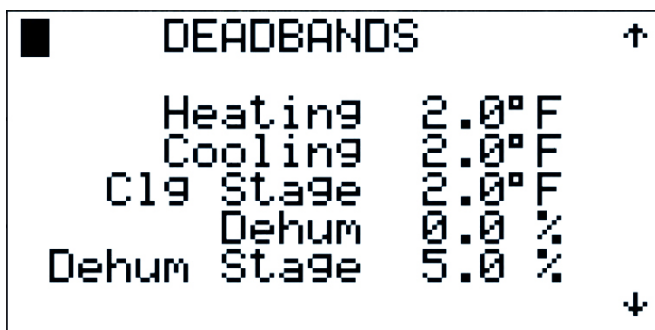

Figure 63
2.3.3.2 Tuning – Dead Bands (Figure 63)
Selecting TUNING from the SERVICE MENU displays the DEADBANDS screen shown in Figure 63. The default settings for the dead bands can be modified on this screen. The Heating Deadband value is subtracted from the Zone Temperature Setpoint from section 2.2. This value is the heating setpoint that enables the aux air heating output. It is also the heating setpoint for the Air Heating PID loop. The Cooling Deadband value is added to the Zone Temperature Setpoint. This value enables the first cooling stage. The Cooling Stage is then added to the first cooling stage value to enable the second cooling stage. The Dehum Deadband value is added to the Zone RH Setpoint. This value enables the first dehumidification stage. The Dehum Stage is then added to the first dehumidification stage value to enable the second dehumidification stage. The Deadband and stage settings will be useful in multiple unit installations to provide for the more customizable sequence.